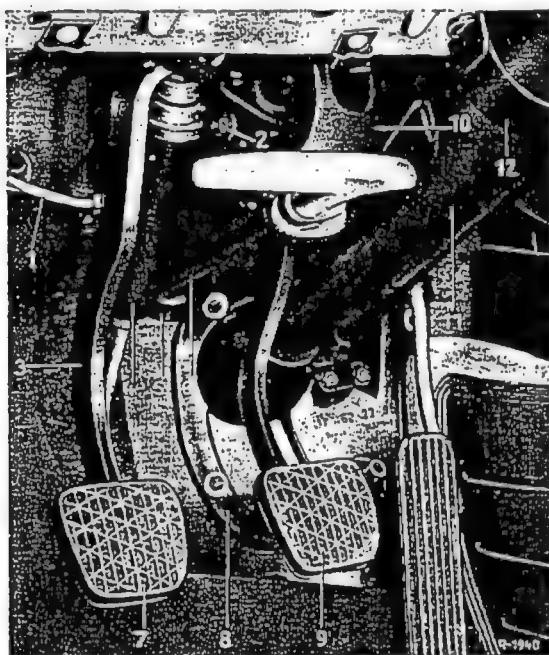

Fig. 42-18/2
1. Swivel the front brake cable (1) inward and detach from the brake lever (4) (see Fig. 42-18/5).